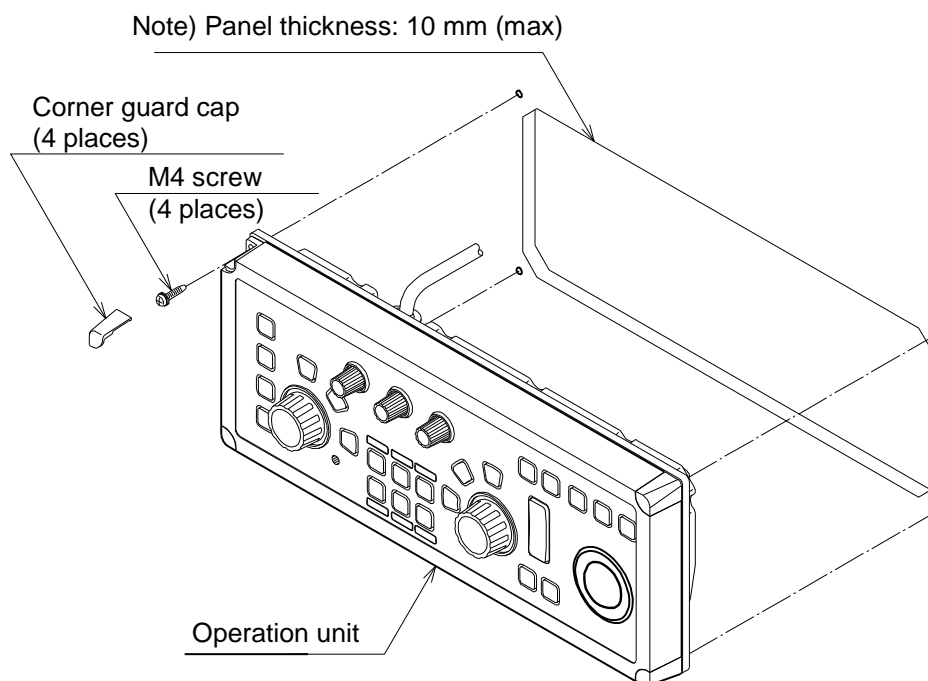

Figure 3.12 Flush Mounting of the Operation unit
- (1) Remove corner guard caps of Operation unit.
- (2) Insert the Operation unit and its connecting cable into the opening and adjust the Operation unit parallel to the mounting face (Figure 3.12).
- (3) Secure the Operation unit to the panel with 4 mm tapping screw (4 places).
- (4) Reinstall corner guard caps removed in (1) to the original places.